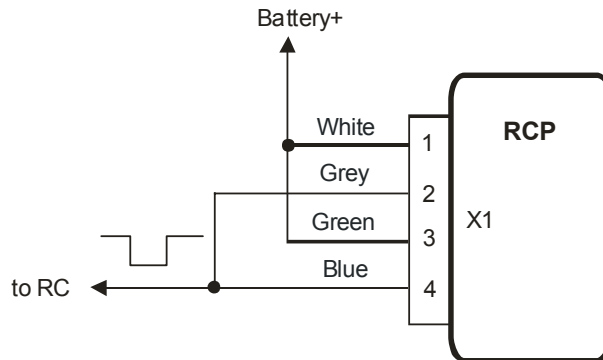

Figure 6
- The remote control with the only one output channel may be connected by the scheme at fig. 6. Such a connection give a possibility not only to turn the heater on, but also turn the heater off too. Every one impulse on the output of the remote control receiver unit will move the heater to the opposite state: switch on the idle heater, switch off the operated heater. To realize this mode it is necessary to connect in pairs the inputs Heater_on+ with Heater_off+, and the inputs Heater_on- with Heater_off-.